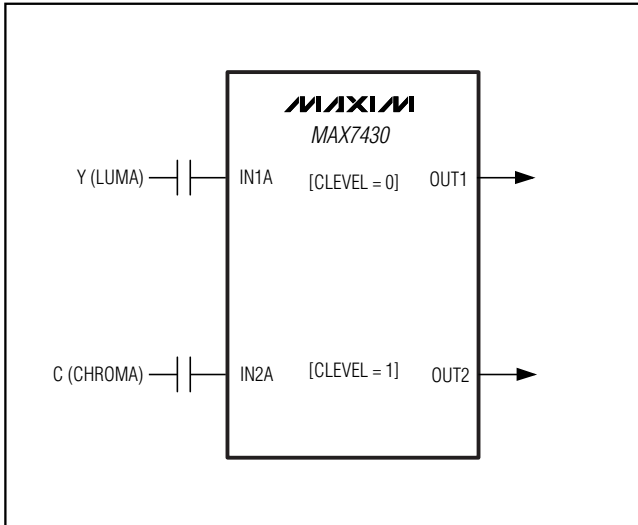

Figure 10. MAX7430 Y/C Video Filter Application
The MAX7430 is ideally suited for processing S-Video (Y/C) signals (Figure 10). Ensure that IN1\_ filters the signal that contains the sync information (Y) since the clamping on IN2\_ is internally controlled by the master channel (IN1\_) sync. Set the clamp level for IN1\_ to +1V (CLEVEL1 = 0) and set the clamp level for IN2\_ to +1.5V (CLEVEL2 = 1).